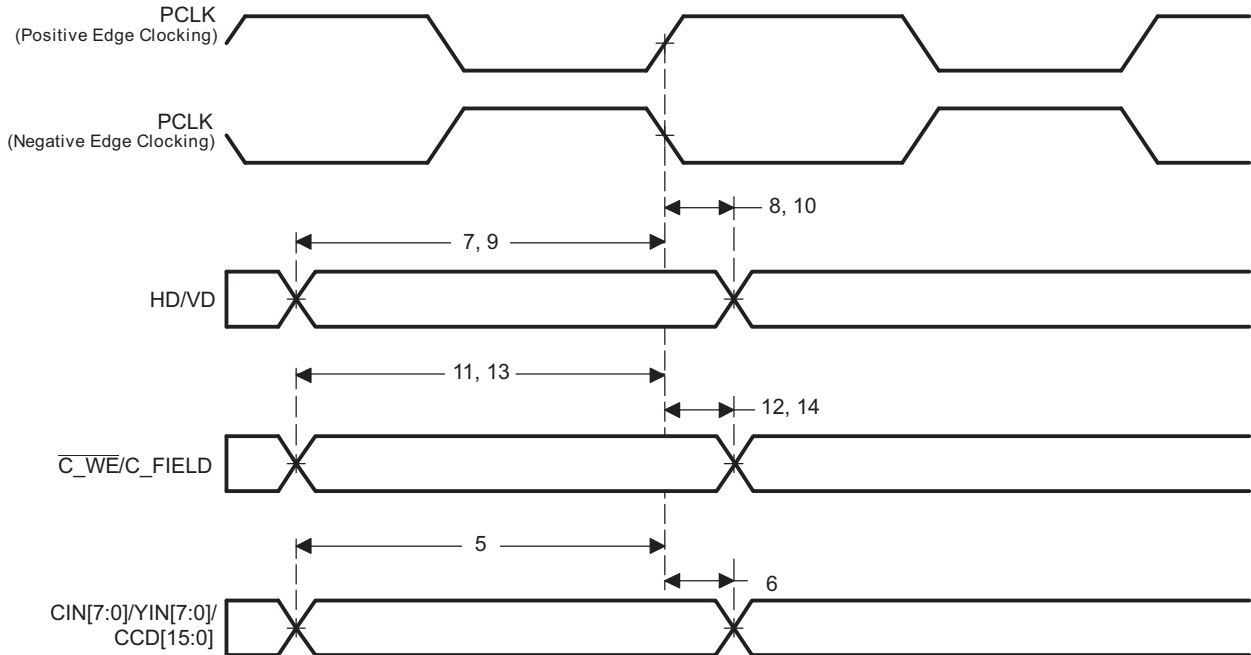

Figure 6-32. VPFE (ISIF) Slave Mode Input Data Timing
**Table 6-46. Timing Requirements for VPFE (ISIF) Slave Mode (see Figure 6-32)**